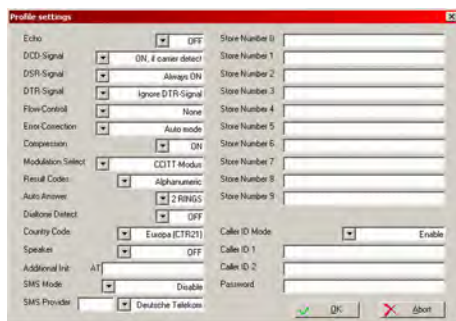

Fig. 188: Profile settings
4. ➤ Configure the settings shown in (Fig. 188) for the modem to accept an incoming call for remote configuration.